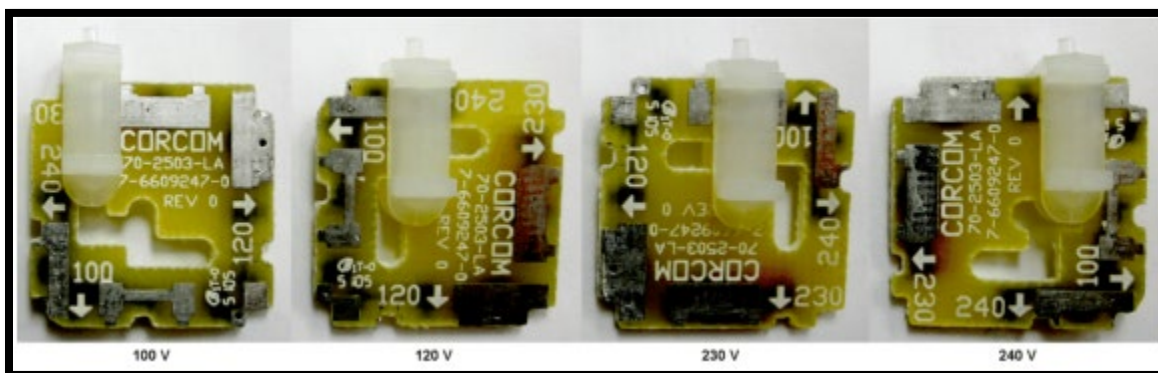

Figure 26. Orient the Voltage Selector Card and Clip on the Indicator Pin
- 3) Orient the card so the desired voltage is readable at the bottom. Figure 26 shows the orientations for the four voltage settings and how to replace the indicator pin in the card for that voltage. Note that the arrow beside the setting indicates the edge of the card to be inserted first into the power entry module.